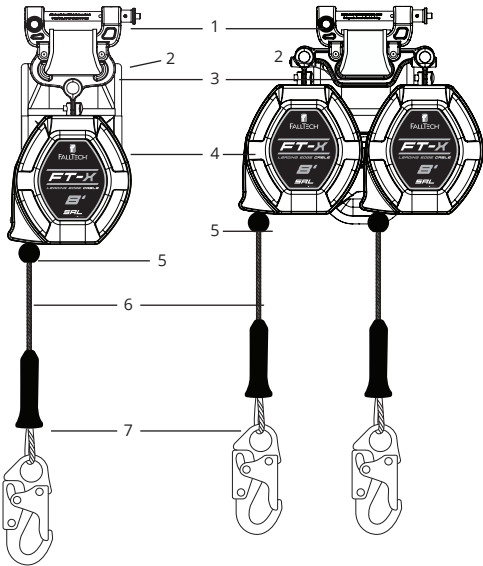

Figure 2 - About the FT-X™ Cable Class 2 Leading Edge SRL-P
As shown in Figure 2 below, the FT-X Cable has a nylon housing that contains a galvanized wire rope (cable) lifeline wound onto a spring tensioned drum. The FT-X Cable lifeline is equipped with a lifeline stop and a leg-end connector. When the user is attached, the lifeline extends and retracts with the user movement, automatically maintaining taut lifeline. If a fall occurs, a centrifugal pawl system engages, stopping the lifeline payout. In a fall event, the SRL-FBH Connector will break away from the Shear Connector, and the integral Energy Absorber (EA) will deploy, gradually slowing and arresting the fall.